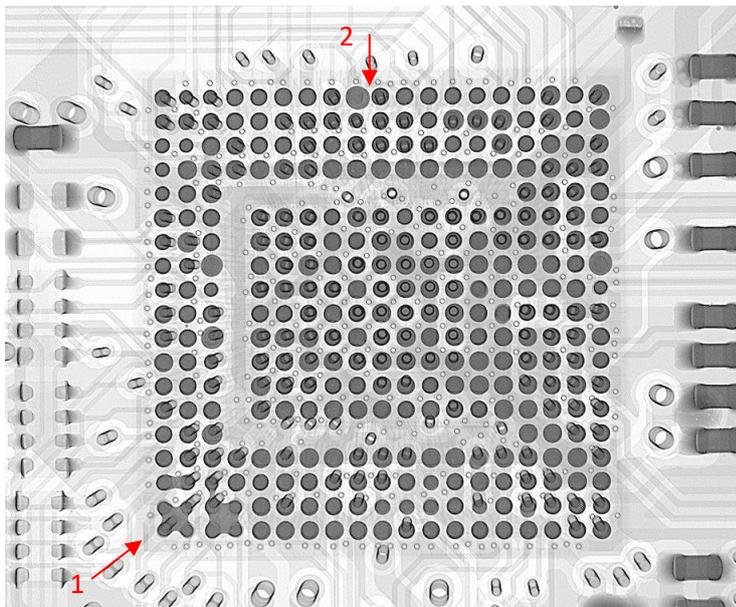

Figure 1: BGA on assembly with multiple bridging (1) and extended ball size (2)
Figure 2 a: Multiple bridging (1) view with Ersascope & BGA head from left corner (see arrow in fig. 1) 2 b: flip chip head shows short (red = center of ball)